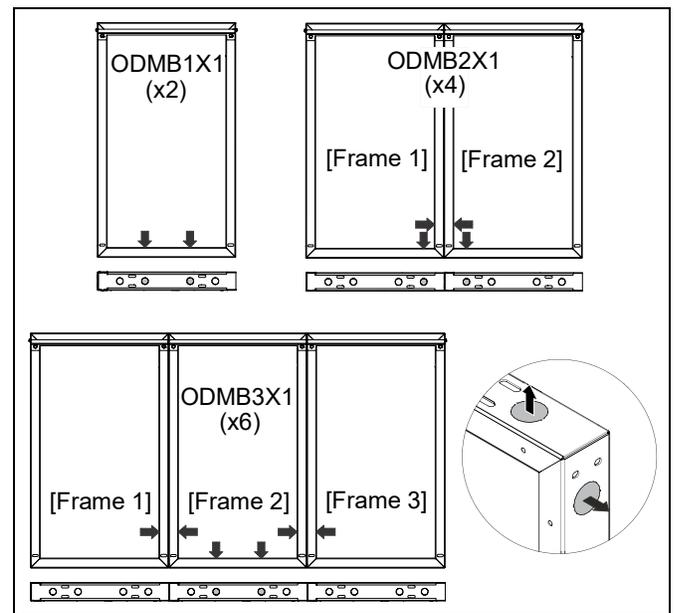

Figure 7
- Remove the required knock-out panels from the bottom and sides of the frames (A). (See Figure 7)